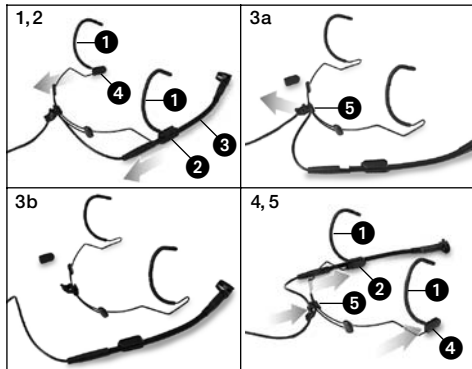

Fig. 2: Removing the microphone arm.
- Refer to fig. 2.
1. Pull the microphone arm holder (2) with the microphone arm (3) from the temple piece (1) in the direction of the arrow.
2. Remove the cover (4) from the other temple piece.
3. Remove the cable from the cable holder (5).
4. Insert the microphone arm holder (2) and the cover (4) all the way into the respective wire loop below the opposite temple piece (1).